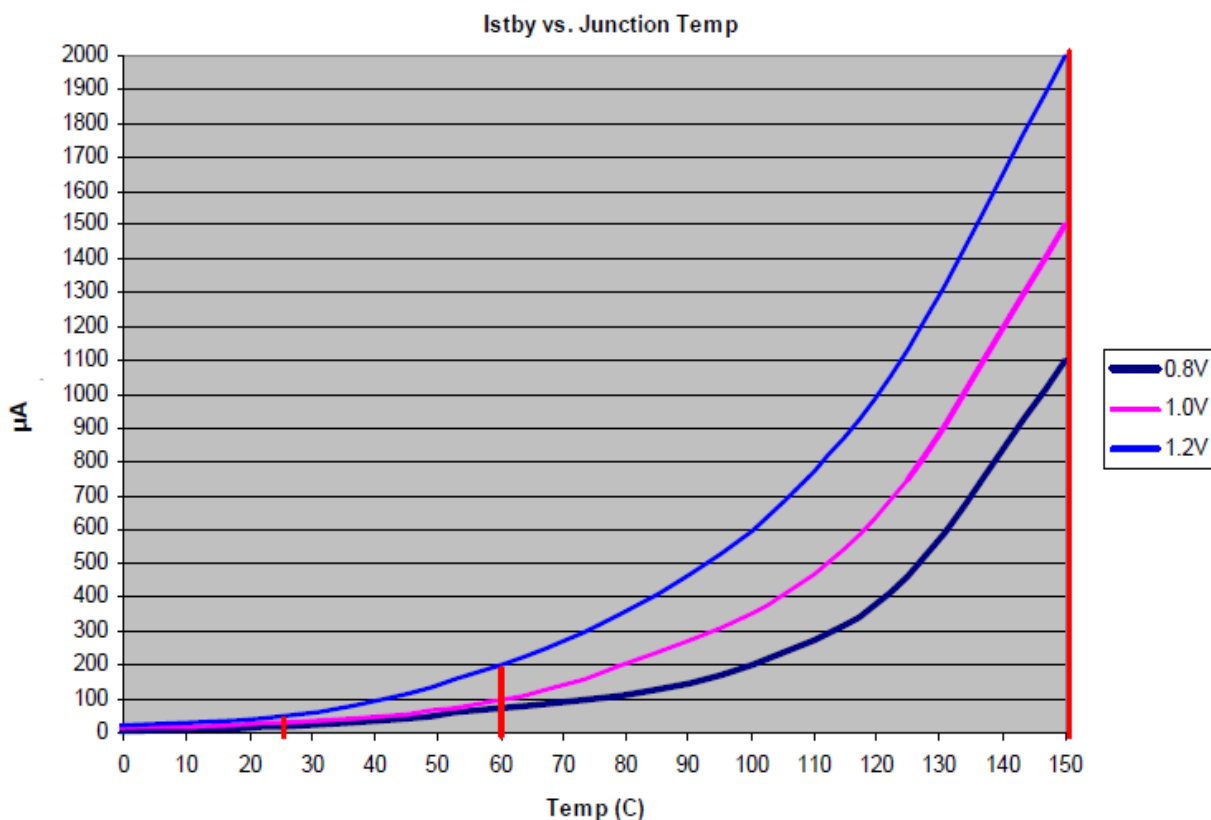

Figure 2. fISTBY Worst-case Specifications
Figure 2 shows an approximate interpolation of the I_{STBY} worst-case specification to estimate values at different voltages and temperatures. The vertical lines shown at 25 °C, 60 °C, and 150 °C in Figure 2 are the actual I_{DD_STBY} specifications (27d) listed in Table 9.
- ¹⁰ The current specification relates to average standby operation after SRAM has been loaded with data. For power up current see Section 3.7, "Power-Up/Down Sequencing", Figure 2.